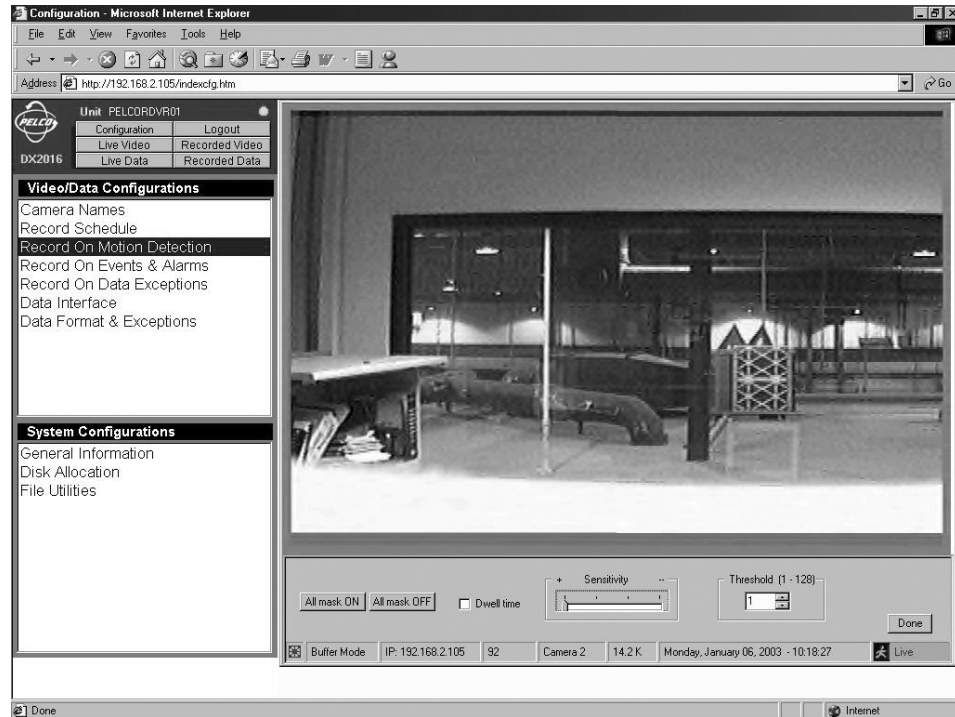

Figure 15. Motion Selection Screen
8. If you want to save the changes to the DVR, click the **Yes** button. The program displays the picture for that camera (Figure 15).